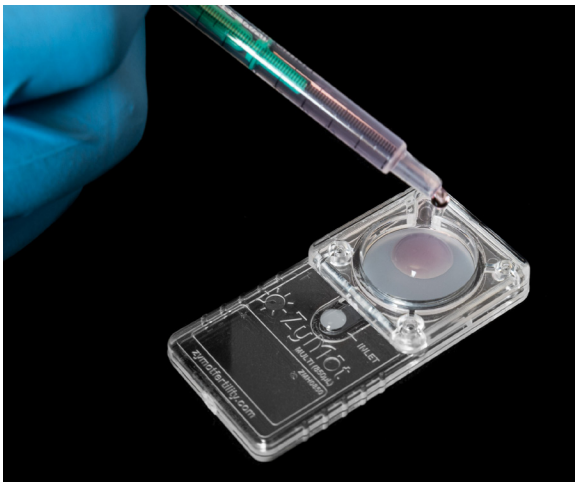

Figure 5b. Cover membrane surface.
- b) Disconnect the syringe from the Outlet Port and apply the remaining media in the syringe to the surface of the upper membrane by dropping from approximately 2cm above the membrane (Figure 5b).